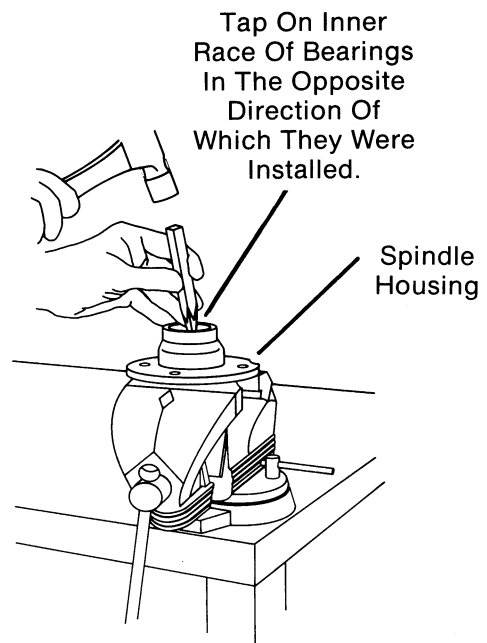

FIG. 22
- f. Check condition of both upper and lower spindle bearings in spindle housing. If bearings need replacement, tap lightly on inner race of bearings from the opposite direction of which they were installed. (Fig. 22)